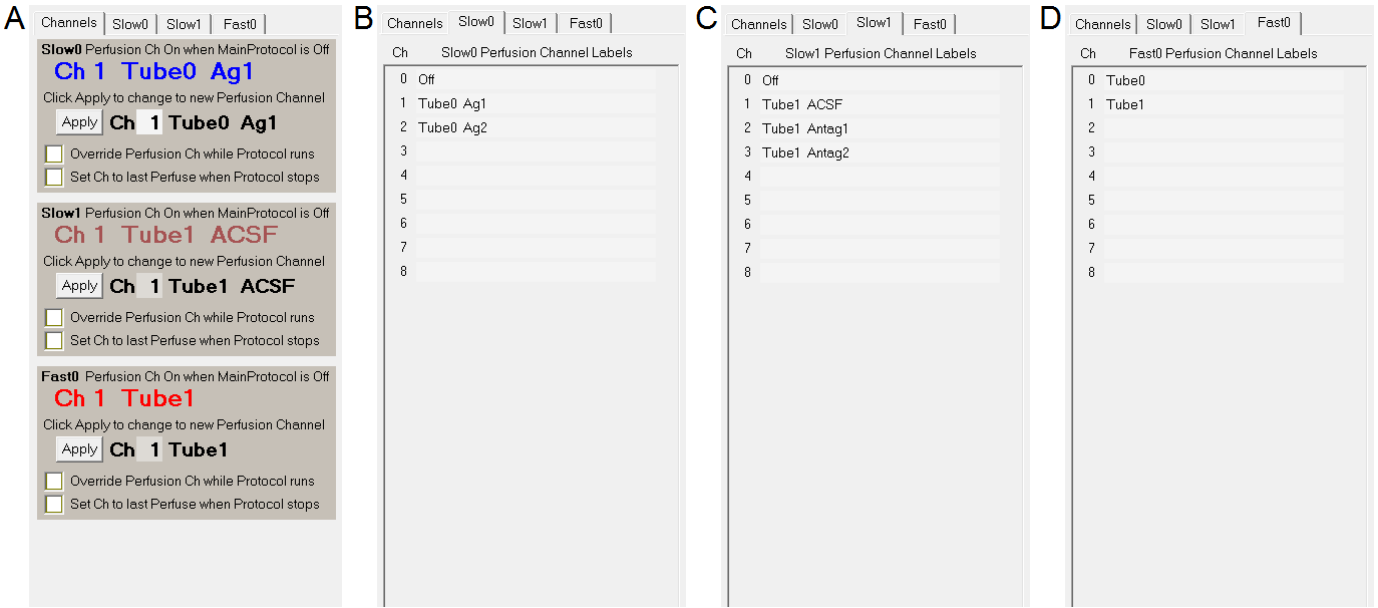

Fig. 10.4.1.3. Setting up the perfusion channel number and label information for the Dual-Line/Stepper example.
The way that WinLTP can control a Dual-Line/Stepper perfusion system is shown in Fig. 10.4.1.1. Slow0 Perfusion produces digital output on static Port1 to control one valve controller which in turn controls 4 to 16 valves. This Slow0 perfusion is for producing slow perfusion changes BETWEEN sweeps and controls the perfusion solution coming out of Tube 0, which usually contains several **agonist** or agonist + antagonist test solutions.
Fig. 10.4.1.1. WinLTP control of Dual-Line perfusion and a Stepper. Slow0 and Slow1 Perfusion can control two valve controllers, and the Fast0 Perfusion controls the Stepper which controls whether solution from Tube 0 (blue) or Tube 1 (brown) is applied to the cell. The Fast0 Stepper therefore controls whether antagonist (Slow1) or agonist (Slow0) is applied.
Figs. 10.4.1.2, 10.4.1.3 and 10.4.1.4 show a simplified experiment involving only two tubes (Tube 0 controlled by Slow0 perfusion, and Tube 1 controlled by Slow1 perfusion), and a Fast0 controlled stepper to switch between Tube 1 and Tube 0.
Fig. 10.4.1.2. The ResourcesUsed tabsheet configured to run Dual-Line/Stepper perfusion. First choose how AO1 will be used. Next check the Slow0, Slow1 and Fast0 perfusion checkboxes. Finally choose the digital and analog output to control the Slow0 and Slow1 valve controllers and the Fast0 controlled stepper.
Next you have to set up the perfusion channel label information (Fig. 10.4.1.3, B-D). In the Slow0 (B), Slow1 (C) and Fast0 (D) channel labels, put in the appropriate perfusion channel labels. In this example, for Slow0 (the Tube 0 valve controller), the Slow0 Perfuse event in the Protocol Builder can either output agonist 1 or agonist 2 ('Tube0 Ag1' or 'Tube0 Ag2'). For Slow1 (the Tube 1 valve controller), the 'Slow1 Perfuse' event in the Protocol Builder can either output ACSF, antagonist 1 or antagonist 2 ('Tube1 ACSF', 'Tube1 Antag1' or 'Tube1 Antag2'). For Fast0, the stepper can switch between 'Tube0' or 'Tube1'.
Then in the Channels tabsheet (Fig. 10.4.1.3A), set which Slow0 and Slow1 perfusion channel will be on when the MainProtocol is off. Enter the Ch number by the 'Apply' button and then click the 'Apply' button. The perfusion channel number when the MainProtocol is off will be shown above the 'Apply' button plus the perfusion channel label. For Slow0 perfusion it is Ch 1 with a 'Tube0 Ag1' label. For Fast0, set which tube will be bathing the cell when the MainProtocol is off, in this case, Ch1 with a 'Tube1' label. Neither the 'Override Perfusion Ch while the Protocol runs' checkbox or the 'Set Ch to last Perfuse when Protocol stops' checkbox needs to be checked.
Fig. 10.4.1.4 shows running the Dual-Line/Stepper example. The ‘Slow0 Perfuse’ and ‘Slow1 Perfuse’ events in the Protocol Builder (upper left) show when the Slow0/Tube0 and Slow1/Tube1 solutions are changed. The MainProtocol starts out with the ‘Slow1 Perfuse’ event making the Slow1/Tube1 controller switch to Ch2, ‘Antag1’ (which it already was), and with the ‘Slow0 Perfuse’ event making Slow0/Tube0 controller switch to Ch1, ‘Ag1’, and then switches to Ch2 ‘Ag2’. Then the ‘Slow1 Perfuse’ event switches to Ch3, ‘Antag2’, and with the ‘Slow0 Perfuse’ event switches to Ch1, ‘Ag1’, and then Ch2 ‘Ag2’.
Fig. 10.4.1.4. Running the Dual-Line/Stepper example. The 'Slow0 Perfuse' and 'Slow1 Perfuse' events in the Protocol Builder (upper left) show when the Slow0/Tube0 and Slow1/Tube1 solutions are changed. The upper right panel shows the Slow1 Tube1 switch from 'Ch1 ACSF' to 'Ch2 Antag1' to 'Ch3 Antag2'. The next panel below shows the Slow0 Tube0 switch between 'Ch1 Ag1' and 'Ch2 Ag2'. The 'Continuous Acquisition' and the 'P0 Stimulus Sweep Acquisition' panel show recordings of the AO1 voltage shifts changing to Ch1 Tube1 or Ch0 Tube0. This results in the solutions switching between Antag1, Ag1 Antag1, Ag2, then Antag2 Ag1 Antag2 Ag2. The Sweep Stimulation bottom panels show change of AO1 (ie IC1) voltage output during a sweep. The -1V means to take whatever the current Fast0 output is BETWEEN sweeps (and when the MainProtocol is off), ie 1V or Ch1.
The Triple-Line/Stepper example (Fig. 10.4.2.4) is also similar to the Dual-Line/Stepper example (Fig. 10.4.1.4) except that after Slow0 Perfuse Tube0 Ag1 and Ag2 are rapidly perfused onto the cell by the Fast0 stepper changing from Ch1 to Ch0 and back to Ch1, then Fast1 Perfuse Tube2 Ag3 and Ag4 are rapidly perfused onto the cell by the Fast0 stepper changing from Ch1 to Ch2 and back to Ch1.